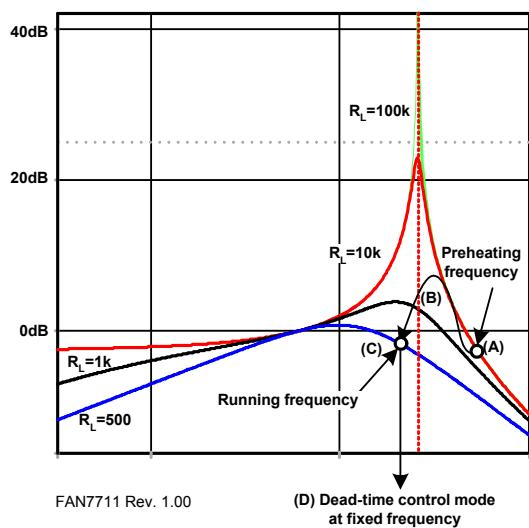

Figure 19. LCC Transfer Function in Terms of Lamp Impedance
The transfer function of LCC resonant tank is heavily dependent on the lamp impedance, R_L , as illustrated in Figure 19. The oscillator in FAN7711 generates effective driving frequencies to assist lamp ignition and improve lamp life longevity. Accordingly, the oscillation frequency is changed in the following sequence:
Before the lamp is ignited, the lamp impedance is very high. Once the lamp is turned on, the lamp impedance significantly decreases. Since the resonant peak is very high due to the high-resistance of the lamp at the instant of turning on the lamp, the lamp must be driven at higher frequency than the resonant frequency, shown as (A) in Figure 19. In this mode, the current supplied by the inverter mainly flows through C_P . C_P connects both filaments and makes the current path to ground. As a result, the current warms up the filament for easy ignition. The amount of the current can be adjusted by controlling the oscillation frequency or changing the capacitance of C_P . The driving frequency, f_{PRE} , is called preheating frequency and is derived by:
After the warm-up, the FAN7711 decreases the frequency, shown as (B) of Figure 19. This action increases the voltage of the lamp and helps the fluorescent lamp ignite. The ignition frequency is described as a function of CPH voltage, as follows:
Finally, the lamp is driven at a fixed frequency by an external resistor, RT , shown as (C) of Figure 19. If V_{DD} is higher than $V_{DDTH(ST+)}$ and UVLO is released, the voltage of RT pin is regulated to 4V. This voltage adjusts the oscillator's control current according to the resistance of RT . Because this current and an internal capacitor set the oscillation frequency, the FAN7711 does not need any external capacitors.
Even in the active ZVS mode, shown as (D) in Figure 19, the oscillation frequency is not changed. The dead-time is varied according to the resonant tank characteristic.